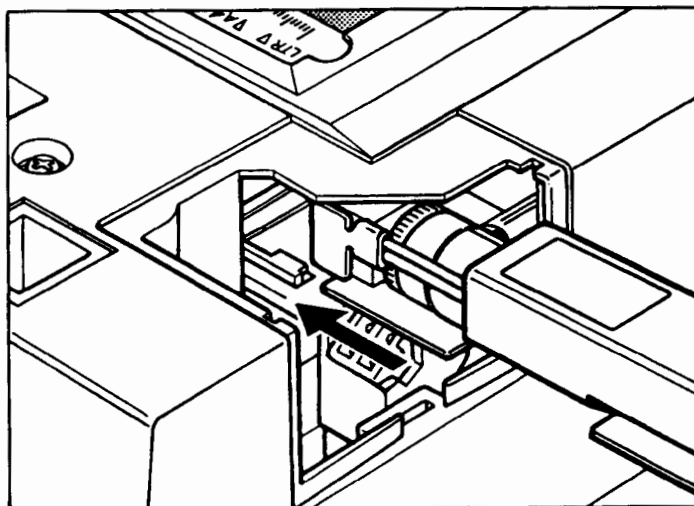

Figure C-14. Inserting the Lamp Holder
13. Insert the lamp holder as shown making sure the base of the holder fits into the plastic guide. See figure C-14.